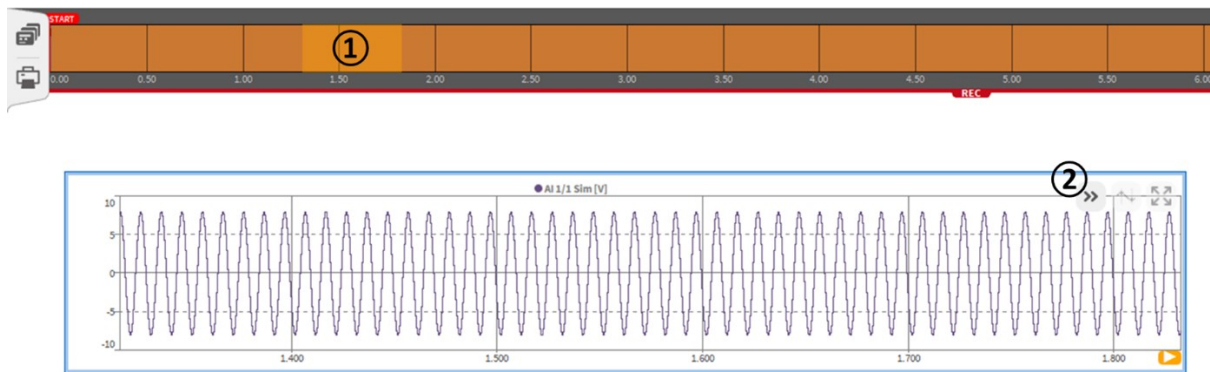

Fig. 8.27: Operational Features of DejaView™
While recording data, the user is free to use the Recorder to view data from the past, even during long duration recording. This feature is called DejaView™. For activating this function, the user must click with the left mouse button in the recorder or touch the recorder with his finger and drag or swipe to the right. From this point the user is also free to pinch or scroll zoom into the data. To quickly get back to looking at the current data the user can simply press the grey >> symbol (see ② in Fig. 8.27) and they will be snapped back into time with the current incoming data. This is one of the most **powerful** features of the OXYGEN software.
- Operational features of DejaView™ (see Fig. 8.27)
- ① Shows the part of the measurement file that is displayed in the recorder
- ② After pressing this button, the recorder will jump to the actual position of the measurement file and show the latest recorded data. A right click on this button makes the recorder show the recorded data from the recording start to the actual time position on the right end of the recorder